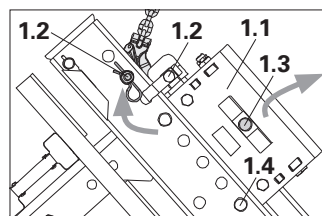

Fig. A1.16a
3. One Fitting Pin (1.4) remains in the adjusting unit. (Fig. A1.16a)
4. Insert Fitting Pins (1.2 + 1.3) into the holes on the crossbeam and secure with cotterpins. (Fig. A1.16a + A1.16b)